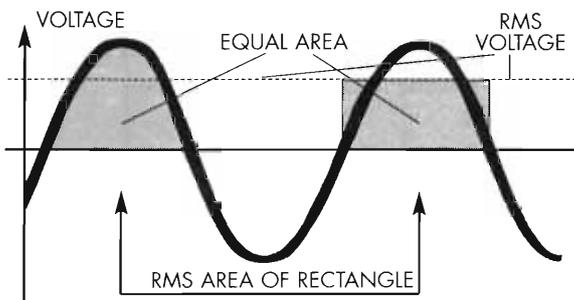

Figure 11-19. Sinusoidal alternating current (AC).
The other type of current that is commonly talked about is *alternating current* (AC). The voltage for alternating current flips back and forth, first pulling electrons in one direction, and then pulling them in the other direction. Common household current is AC. Standard electrical AC produced by rotating electrical power generating equipment, such as power plant steam-driven turbines, has a smooth sinusoidal wave form (see Figure 11-19). When you measure AC voltage using a voltmeter, you do not measure the peak voltage, but the root-mean-square (RMS) voltage, which is the average voltage under each alternating current “wave.”